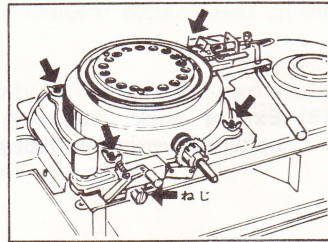

Fig. 21
- (7) Remove 4 wing nuts and 1 screw holding the wick holder assembly and lead wire. (Fig. 21)